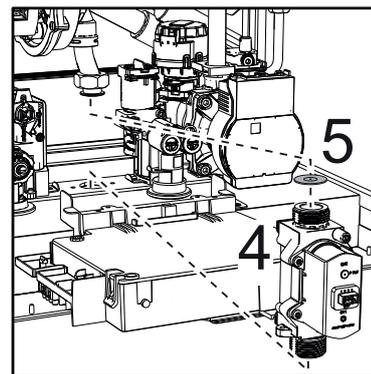

fig. 53 -
- Extract the gas valve "4" gas diaphragm "5" ("fig. 53 -").